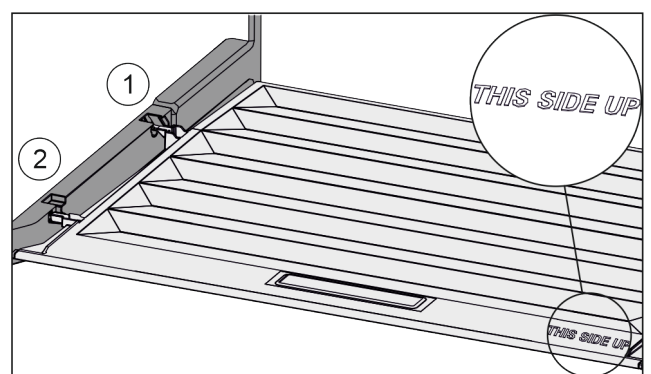

Fig. 95
- Insert the lip of the cover over the opening of the rear bracket Fig. 95 (1) and click into place Fig. 95 (2).